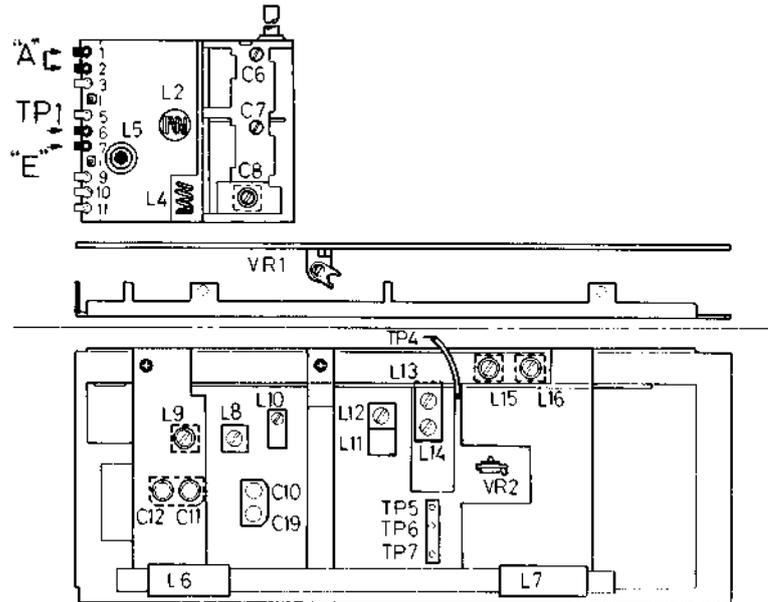

Fig. 10
### AM IF & RF ALIGNMENT (Refer to Fig. 10)
3. Connect the clip of the TV. sweep generator's IF/VF OUTPUT lead to the test point TP1 and the other clip to the "E" (Refer to Fig. 10).
5. Connect the V. INPUT terminal to the test point TP4 (Refer to Fig. 10).
### FM MPX ALIGNMENT (Refer to Fig. 10)